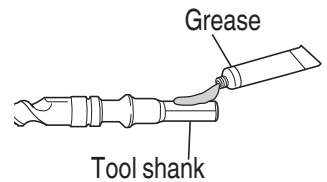

Fig. 18
- (1) Clean, then smear the tool shank with the grease provided in the tube (Fig. 18).